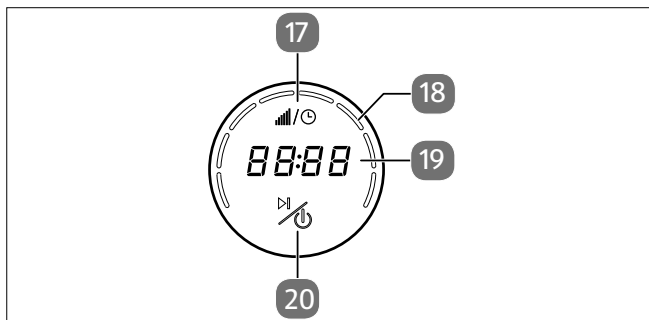

Fig. 4 – Control elements/display field
3. Speed regulator (turning)/controls/display field (see Fig. 4)